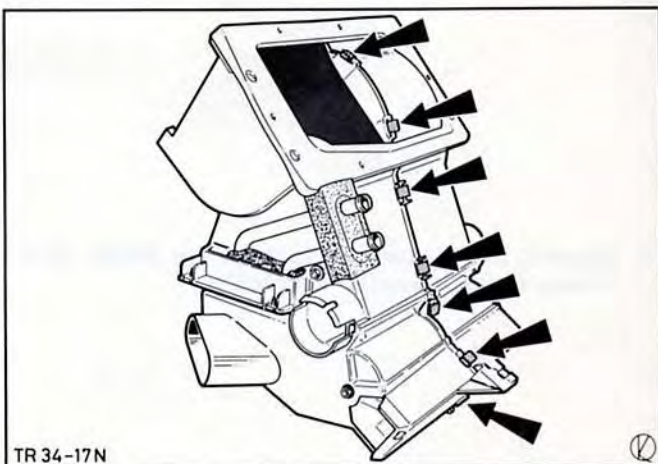

Fig.27. Heater fully assembled - foam gasket stuck in place. Retaining clips arrowed.
10. Stick a new foam gasket to the heater casing, Fig.27.